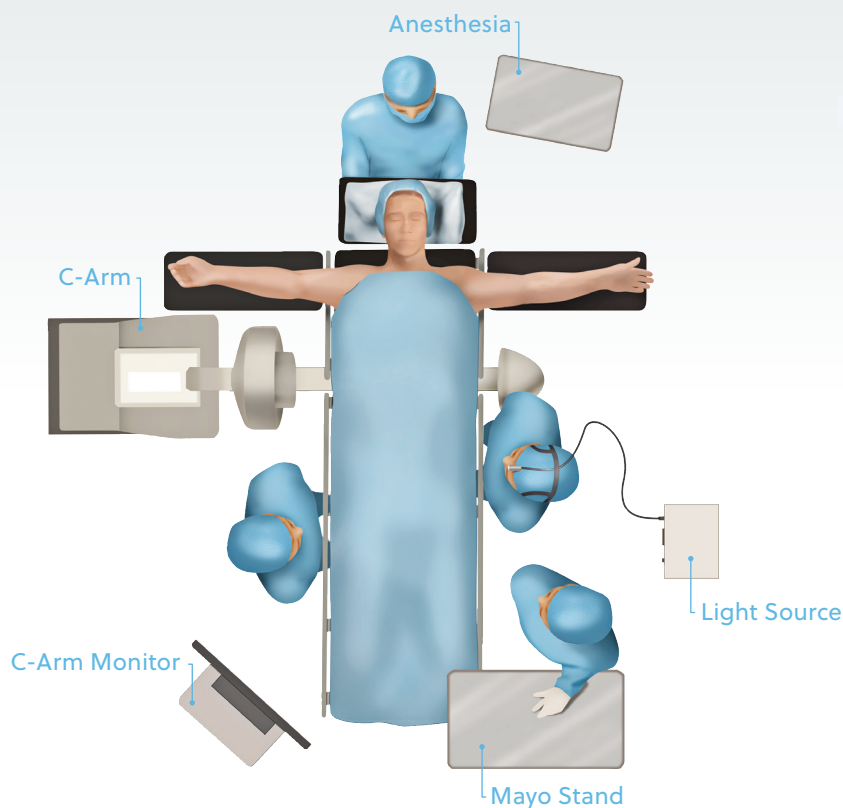

Figure 1:
- Position and drape the patient in the usual fashion (**Figure 1**).